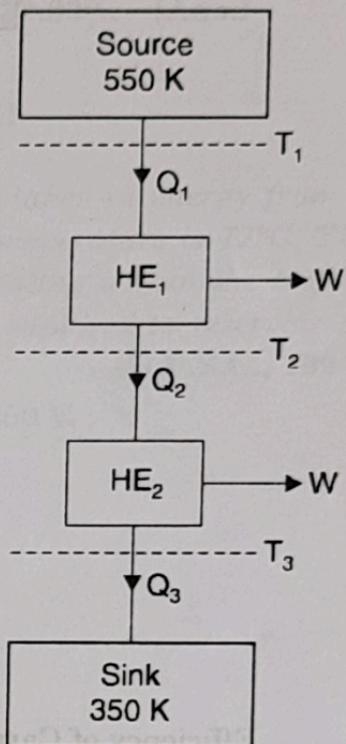

Fig. 17
**Solution.** Fig. 17 shows the arrangement of the system.